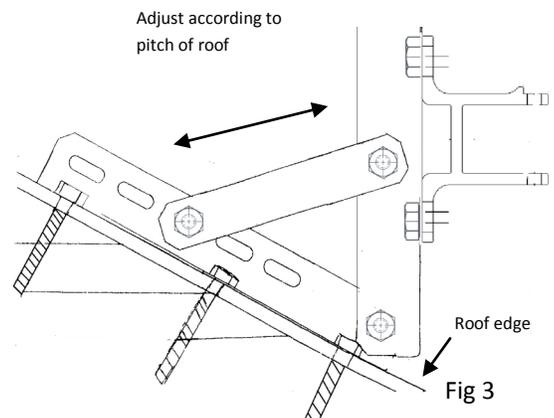

Fig 3
1. The roof brackets are to be attached to the main trusses/structure with lag bolts that penetrate well into the trusses/structure. **Lag bolts should be 3/8" diameter galvanized/stainless and penetrate at least 3 inches into the roof rafter (Fig 3).**